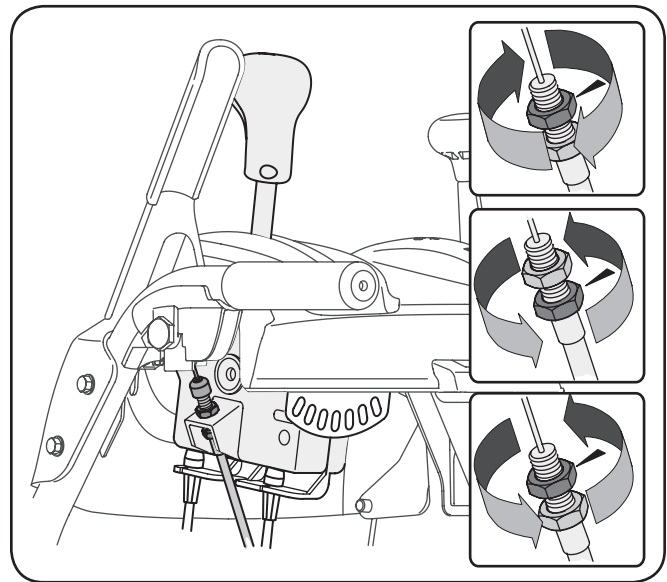

Figure 6-7
3. Repeat on the other cable adjuster until the chute assembly has full range from left-to-right. See Fig. 6-7.